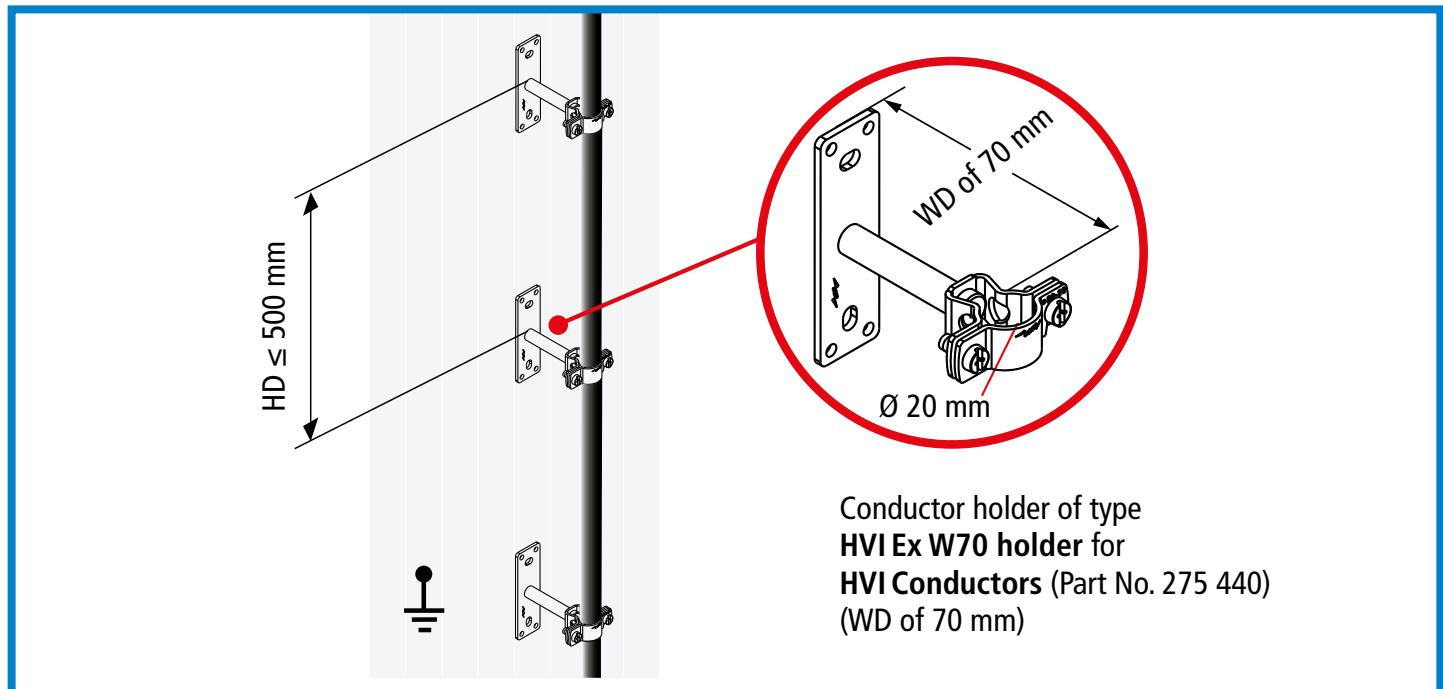

Figure 1 Installation in parallel to an earthed metal façade: holder distance of 500 mm; wall distance of 70 mm
If metal conductor holders of type **HVI Ex W70 holder** with a wall distance (WD) of 70 mm (Part No. 275 440) and a maximum holder distance (HD) (installation distance) \leq 500 mm (see Fig. 1) are used, discharges can be reliably prevented.